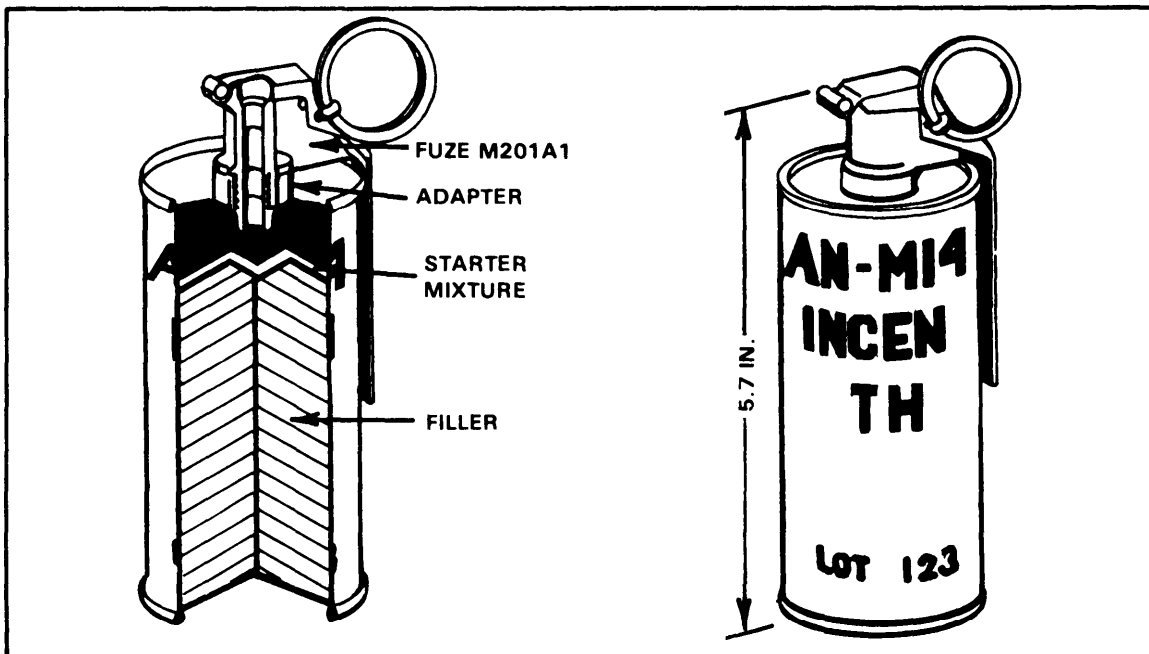

Figure 1-16. AN-M14 TH3 incendiary grenade.
a. Incendiary (Figure 1-16). The AN-M14 TH3 incendiary hand grenade is used to destroy equipment. It can damage, immobilize, or destroy vehicles, weapons systems, shelters, or munitions. The grenade may also be used to start fires in areas containing flammable materials.
(1) Body -- sheet metal.
(2) Filler -- 26.5 ounces of thermate (TH3) mixture.
(3) Fuze -- M201A1, see paragraph 1-4.
(4) Weight -- 32 ounces.
(5) Safety clip -- no.
(6) Capabilities -- can be thrown 25 meters by average soldier. A portion of the thermate mixture is converted to molten iron, which burns at 4,000 degrees Fahrenheit. It will fuze together the metallic parts of any object that it contacts. Thermate is an improved version of thermite, the incendiary agent used in hand grenades during World War II. The thermate filler of the AN-M14 grenade burns for 40 seconds and can burn through a 1/2-inch homogeneous steel plate. It produces its own oxygen and will burn under water.
(7) Color/markings -- gray with purple markings and a single purple band (current grenades). Under the standard color-coding system, incendiary grenades are light red with black markings.